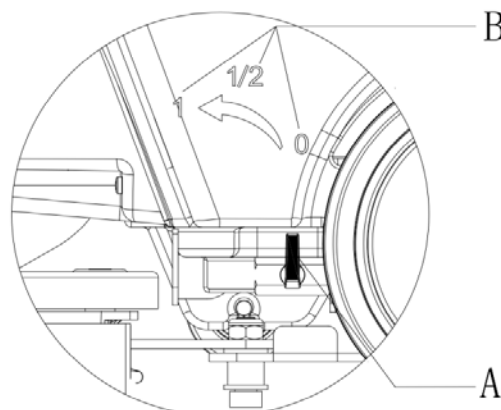

Figure 10
The power switch (45) must on off position "o" before adjusting valve knob (A, Figure 10).
Adjust the valve knob to regulate the volume of the water flow basing on actual need. B in Figure 10 shows the volume of the water flow.